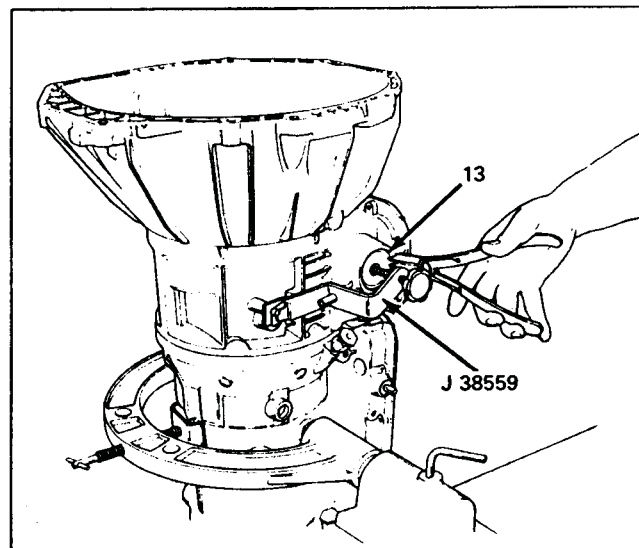

Figure 34
3. Install the accumulator cover remover J-38559 to the adapter case as shown in Figure 34.
5. Turn the wheel on the accumulator cover compressor clockwise and compress the 3-4 accumulator piston cover. (See Figure 34).
6. Using snap ring pliers, remove the snap ring, as shown in Figure 34.